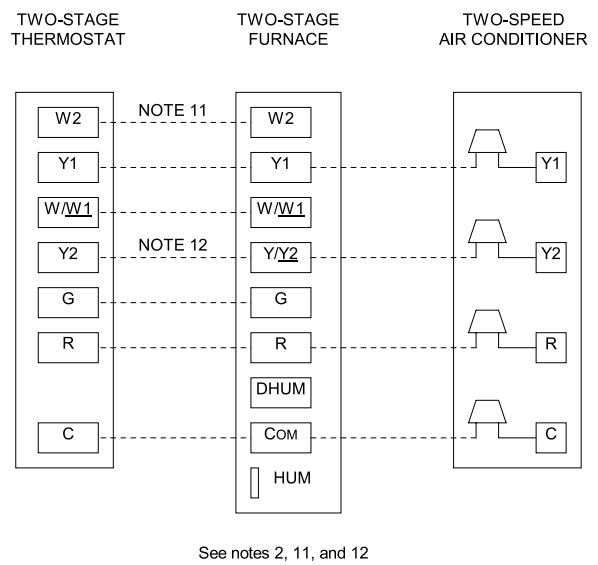

Fig. 49 – Two-Stage Thermostat With Two-Stage Furnace and Two-Speed Air Conditioner
See Fig. 49 for thermostat connections.
3. Two-Stage Thermostat and Two-Speed Cooling (See Fig. 49 for thermostat connections)